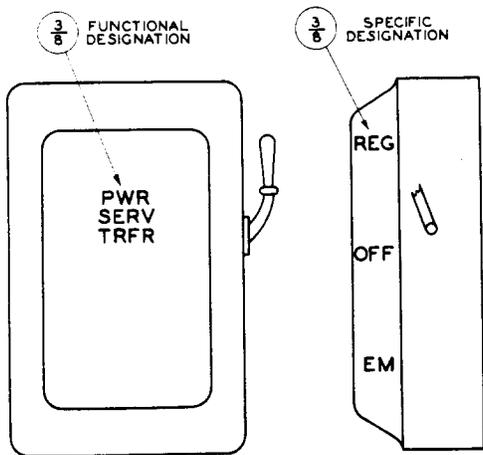

Fig. 44 - Transfer Switch for Power Service
2.63 For enclosed power service transfer switches, see Fig. 44.